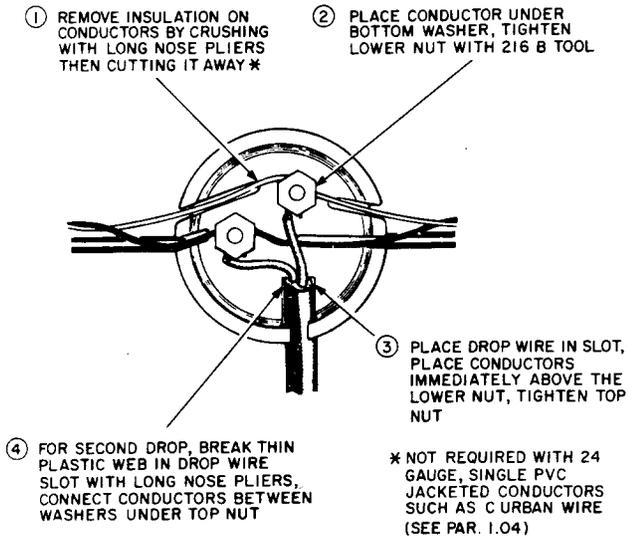

Fig. 12—Terminating Wire Leads
8.04 Dress wire conductors and drop wire into slots provided in wire terminal. Secure leads to binding posts as shown in Fig. 12.